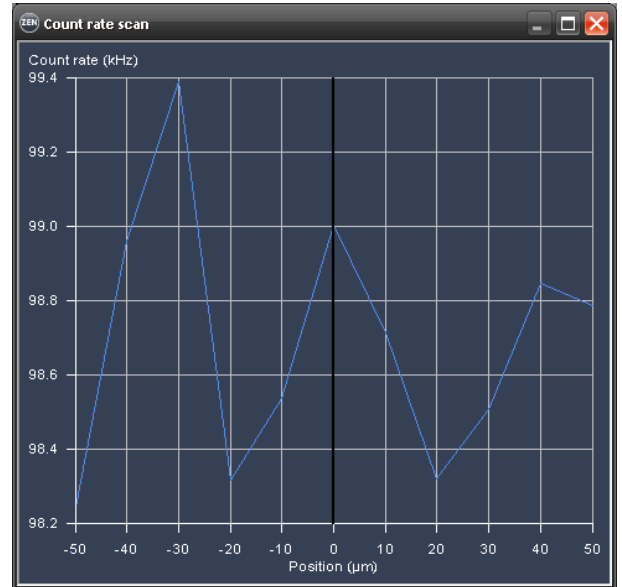
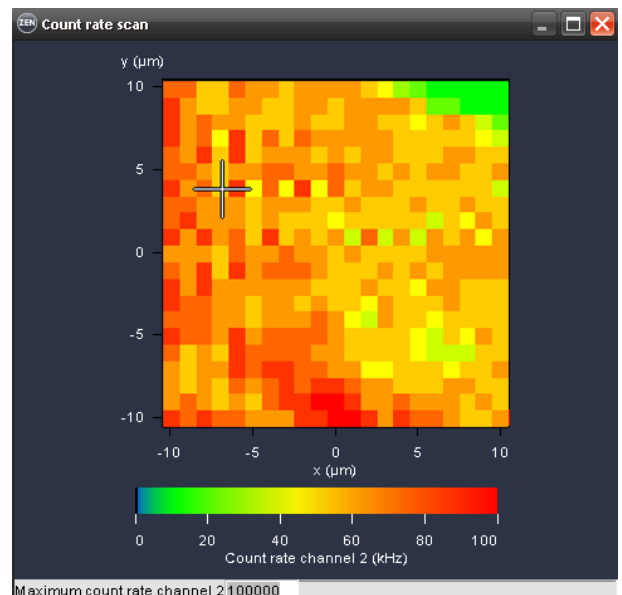

Fig. 114 Z-Scan result window (line plot)
Fig. 115 XY-Scan result window (line plot)
- The focus is now moved either in the x, y, or z direction or a combination of two (xy, xz and yz) in dependence of what button is active over the pre-selected distance. During the scan the count rate is displayed for the selected channels. Dependent on the scan modalities the count rates for the selected channels are plotted in a line plot (x, y and z) (Fig. 114) or frame plot (xy, xz and yz) (Fig. 115). In the frame plot intensities are color coded. The maximum intensity in Hz is displayed in the **Maximum count rate channel 1** and **2** display boxes.